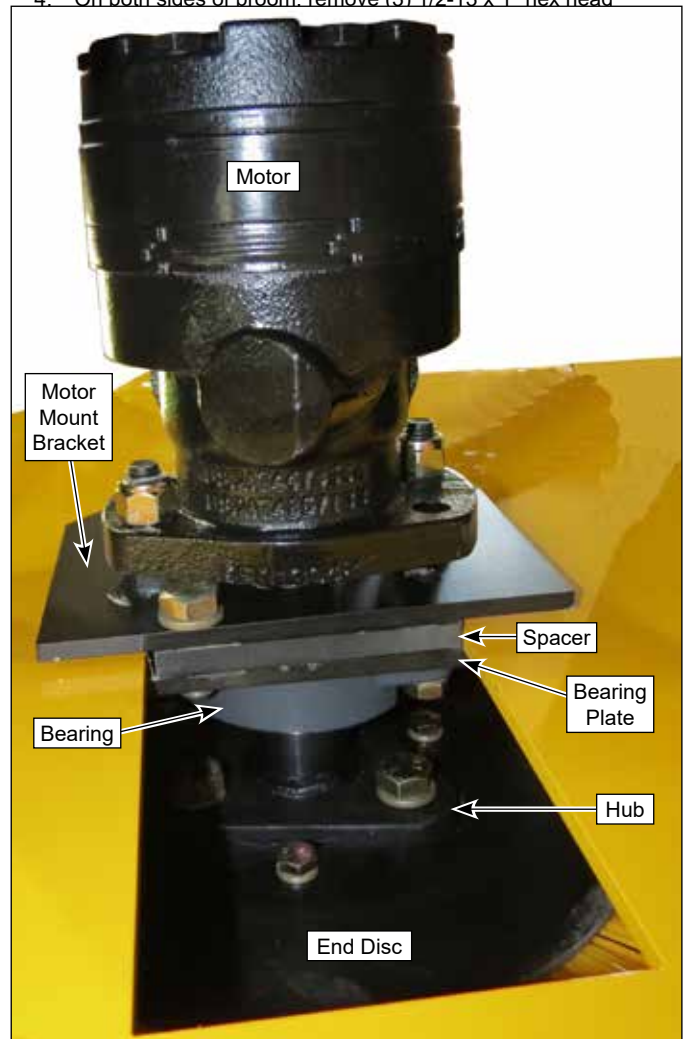

Figure 2 (Bottom View)
4. Adjust the height of the broom housing wear shoes until the broom is level side-to-side. Loosen the (4) 5/16"-18 lock nuts on each wear shoe to adjust it in the vertical slots in the broom housing. See Figure 2.
1. Loosen the deflector upper mounting bolt on each side of the broom housing. See Figures 2 and 3.
3. Remove (2) 1/2"-13 lock nuts and motor from mount bracket. Slide motor out of mating splined hub. Let motor hang on hoses. Retain mounting hardware. See Figure 2.
4. On both sides of broom, remove (3) 1/2-13 x 1" hex head
2. Remove (3) 1/2-13 x 1" capscrews, lock washers and splined hub from end of core. Retain hub and mounting hardware. See Figures 2 and 3.
3. Remove (3) 5/16-18 x 3/4" capscrews, lock washers and end disc (wafer retainer plate) from end of core. Retain end disc and mounting hardware. See Figures 2 and 3.
4. Install end disc on core with original hardware. See Figures 2 and 3.
5. Install splined hub on core with original hardware. See Figures 2 and 3.
5. Insert spacer between inner plate and outer bracket so that all holes align. Install original (3) 1/2-13 x 1" hex head capscrews and lock washers to secure outer bracket and spacer to inner plate. See Figure 2.
7. Slide motor shaft into mating splined hub and secure motor to outer plate with (2) 1/2"-13 lock nuts. See Figure 2.